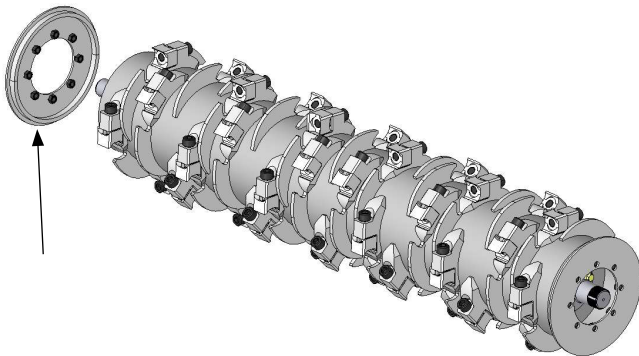

Figure 29
2. Slip the cutting drum out with the end plates on. See Figure 29.